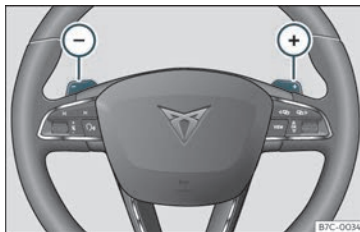

Fig. 202 Steering wheel: automatic transmission levers
- Press the gearshift paddle to select a higher gear >>> **Fig. 202**.